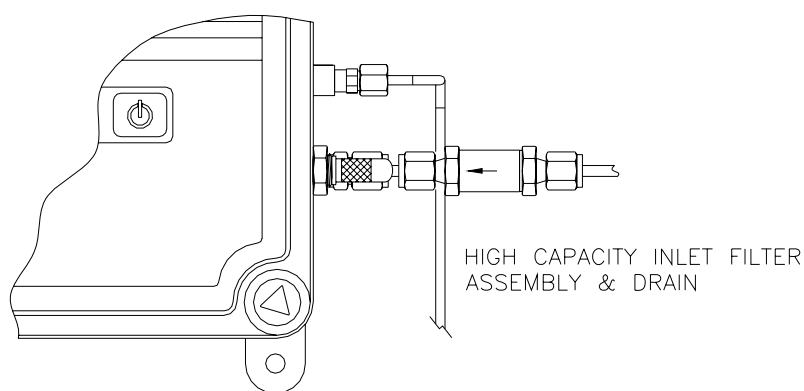

Figure 5. High Capacity Inlet Filter Assembly and Side-Mounted Needle Valve
- Once all tubing connections are complete and the sample inlet tubing has been flushed to drain, sample water can be introduced to the sensor. The inlet needle valve is used to vary flowrate and may need adjustment to establish flow. Refer to Figure 5. First, turn the adjustment knob fully clockwise to a closed position. Then,
In this mode, the sensor LED lights on the front cover act as a bar-graph type indicator as described below. The flow rate is set by adjusting the inlet needle valve installed on the side of the 5000TOCe Sensor (see Figure 5). Turning the adjustment knob counter-clockwise will increase the flow rate while turning it clockwise will decrease the flow rate. Initially, start adjustment with the inlet needle valve adjustment knob turned clockwise until there is no flow observed. Once this is completed, begin turning the adjustment knob counter-clockwise slowly to gradually increase flow.